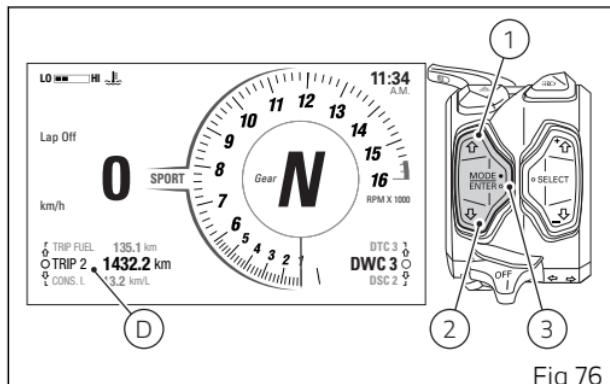

Fig 76
Trip information "TRIP 2" (D, Fig 76) can be reset by pressing ENTER (3) when selected: "RESET?" is displayed in place of the data.